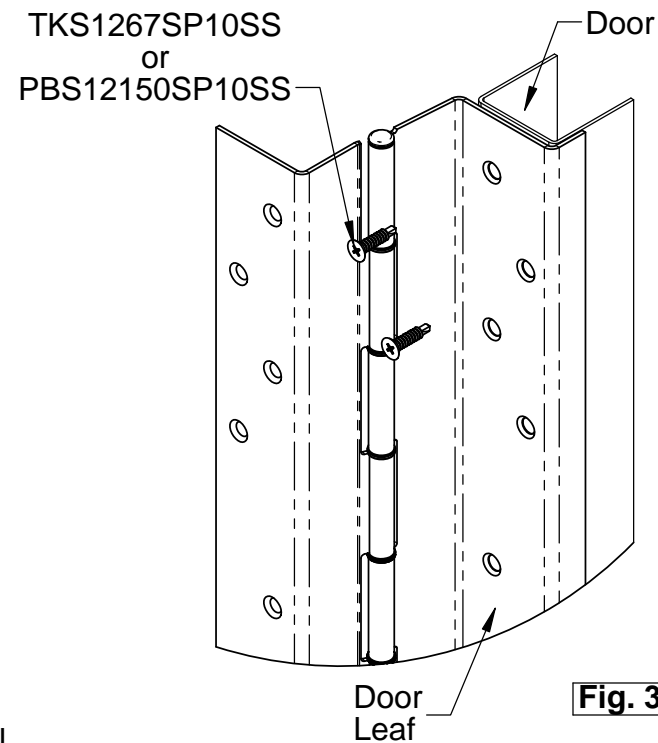

Fig. 3
1. **Attaching hinge to door: (Fig. 3)**